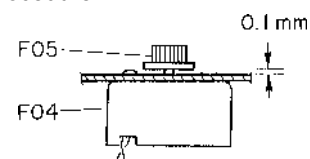

Fig. 1.9.2
- (2) Press fit a new F05 (First Gear) so that the gap between the chassis surface and the bottom of F05 (First Gear) is 0.1 mm as shown in Fig. 1.9.2.
- (3) Solder the wires of F04 (Sled Motor) to the Traverse P.C.B. Ass'y.
- (4) Reassemble other removed parts by reversing the removal procedure.